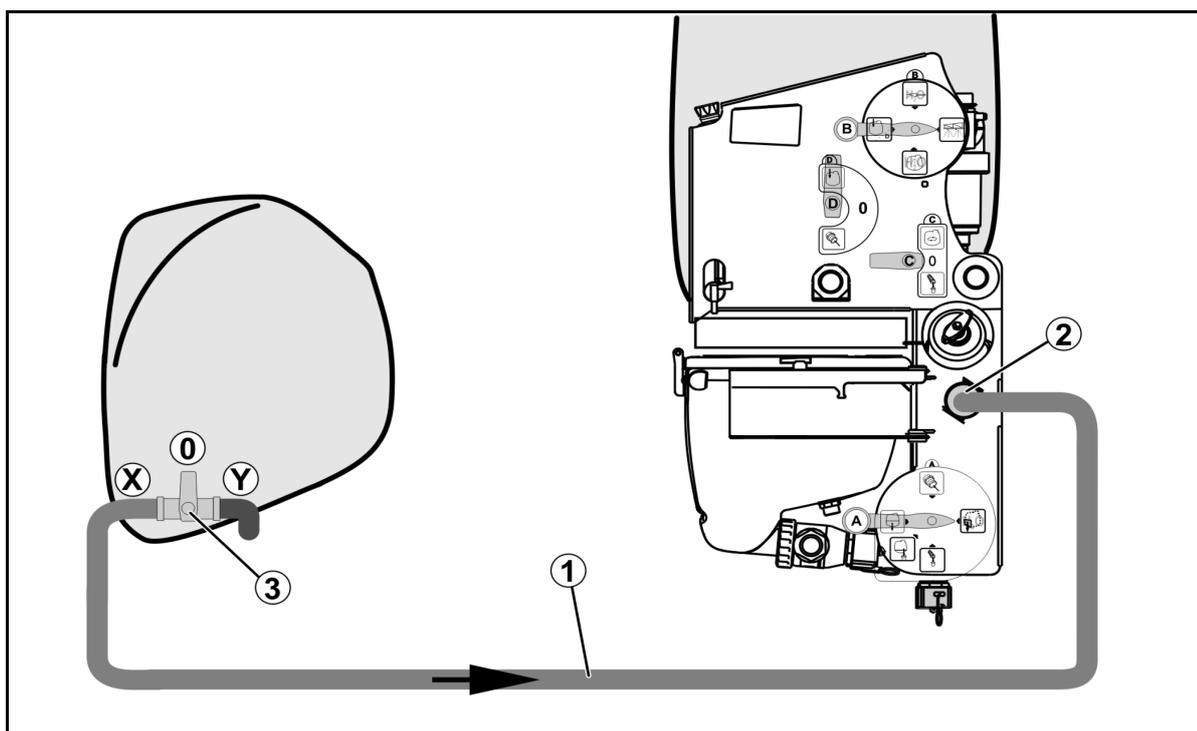

Fig. 14
1. Couple the suction hose (Fig. 14/1) with the filling connection (Fig. 14/2).
3. Couple the connection hose from the front tank (Fig. 14/3) with the quick emptying connection (Fig. 14/4).
4. Switch tap on the front tank (Fig. 14/5) in position **X**.